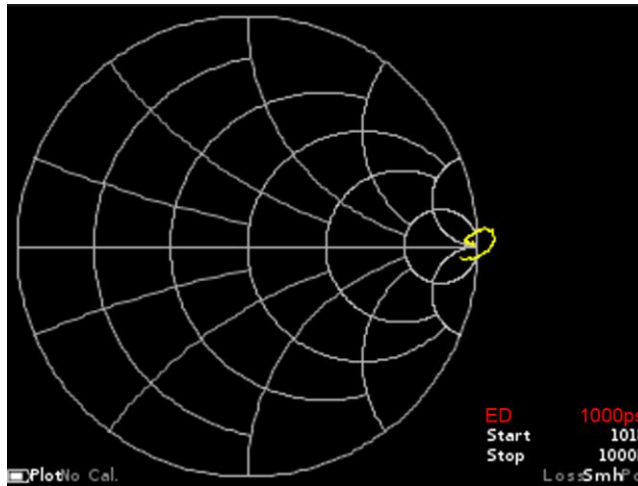

Figure 9.26 – The electrical cable length is compensated
9.9.6. Return to the Smith, phase, or polar chart display mode. If necessary, fine adjustment of the time compensation, set the Electrical delay tune mode, moving the slider and navigation buttons (8) perform fine adjustment of the time of payment, with the chart on the Smith chart and the polar diagram will now be drawn in a circle with minimum radius, and the phase graph will be horizontal (figure 9.26).